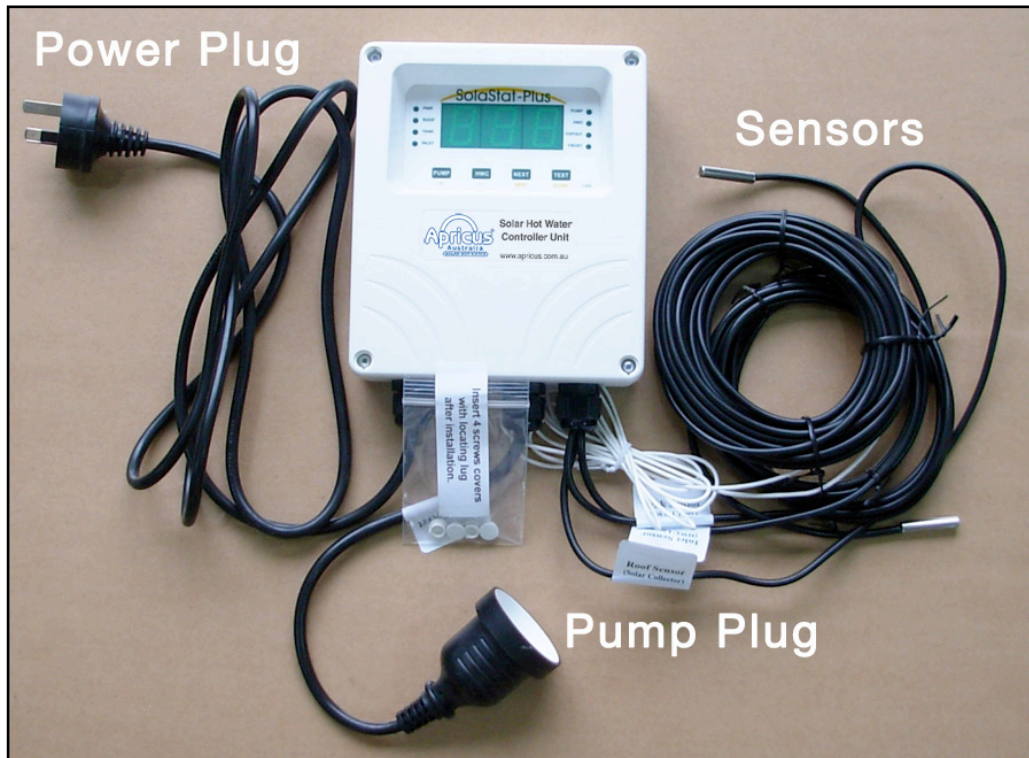

Fig. 7.1
- Figure 7.1 below shows the controller fully wired ready for installation.
- The circulation pump will be wired with a power cable which will plug directly into the controller female power plug. See figure 7.1.